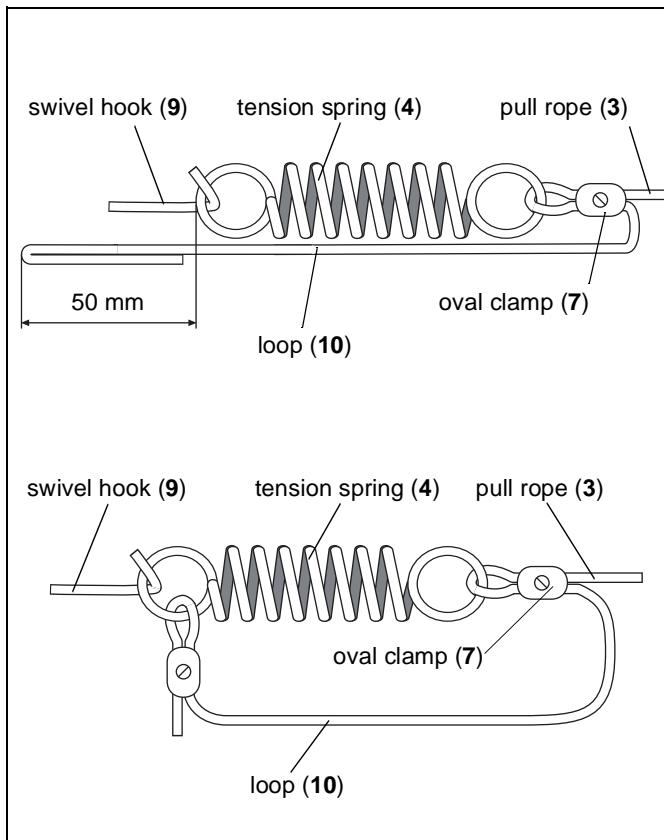

Fig. 5-6: Forming loops
**The loops are to limit the actuator travel of the release wire and to prevent overstretching of the tension springs (s. fig. 5-6). Maximum stretch of a tension spring is about 400 mm.**
17. Form the loops (10) on both tension springs (4) in the following way:
- Place the part of the pull rope (3) provided for the loop (10) along the tension spring (4) (s. fig. 5-6, upper part).
- Form a fastening loop (10) with the end of the loop (10), which ends approximately 50 mm from the end of the tension spring (4) (s. fig. 5-6, upper part).
- Fasten the loop (10) to the swivel hook (9) with an oval clamp (7) (s. fig 5-6, lower part).